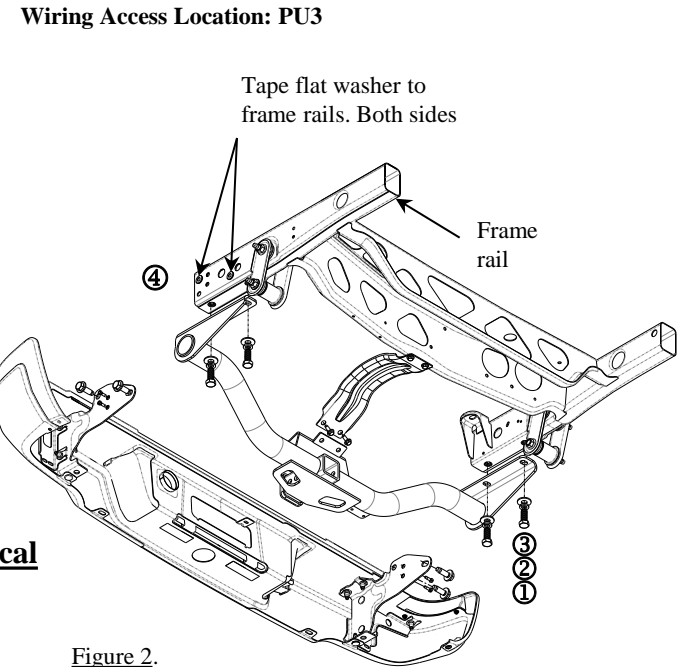

Figure 2.
1. Remove vehicle impact and bumper structure (8 bolts). Remove (2) bolts at spare tire cradle (keep to re-install). Disconnect electrical plugs.
2. Tape flat washers item 4 to frame rails. Both sides.
3. Raise hitch into position and install provided fasteners as shown figure 2